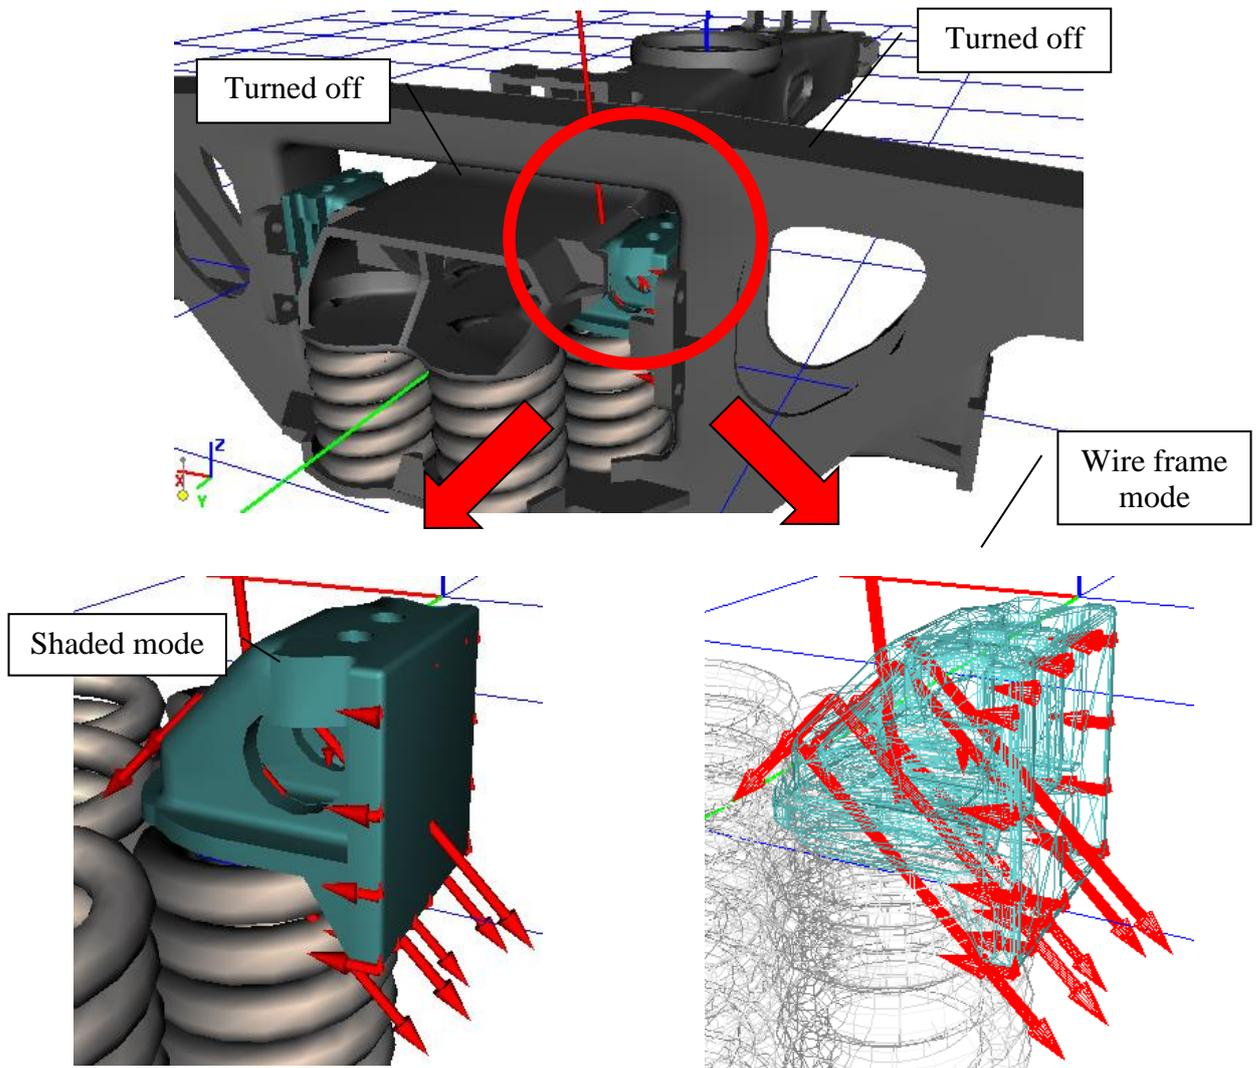

Figure 4.102. Animation window: tips and tricks
- For better view you can turn on/off visualization of bodies with the help of **Modes of body images** context menu command, Figure 4.102.
- Use the **Wire frame** mode () on the tool panel of an animation window to see contact force clearly even they are inside of body image, Figure 4.102.
Use the **Integration** button to run the integration process (Figure 4.102).